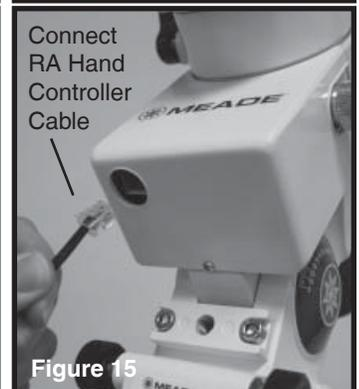

Figure 15
2. Connect the cable labeled RA to the RA motor assembly by inserting the cable thru the hole on the bottom side of the RA motor cover. See Figure 15.